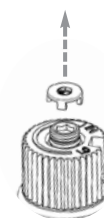

Fig. 1
- 14) Remove the black protection cap by hand from the hi-low knob (Fig.1).